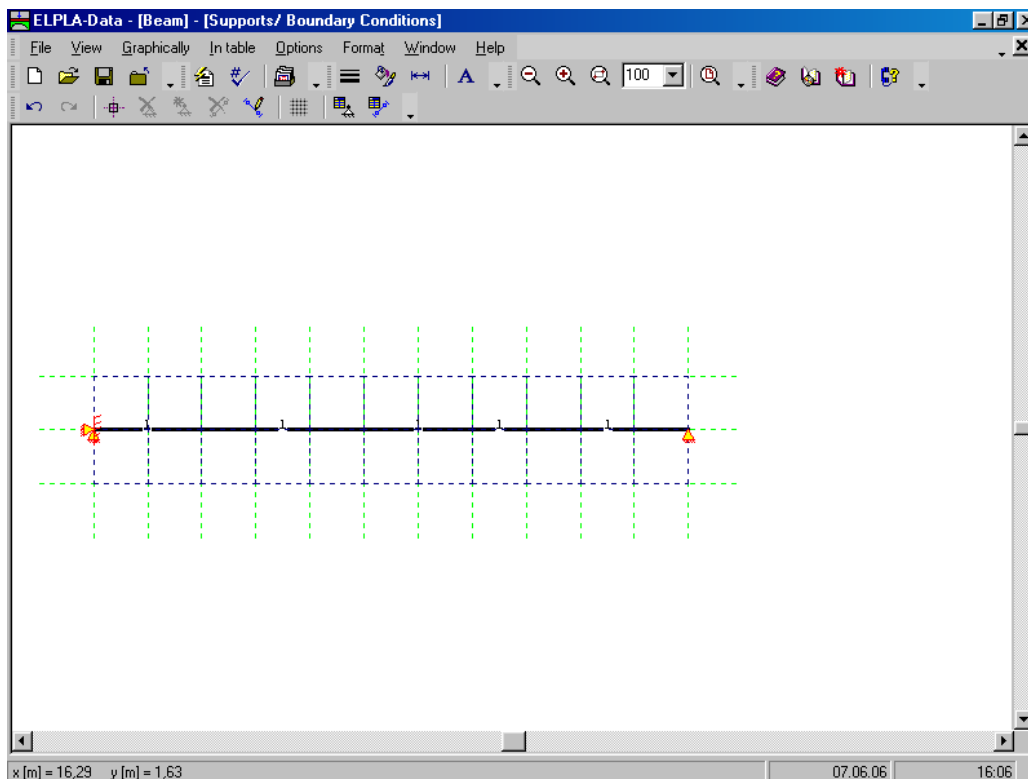

Figure 8-23 Supports on the screen
To define the roller support, repeat the steps used to define the fixed support except that the support is free to rotate and the displacement in x -direction is free. To make the rotation of the roller support is free, type "F" in the "Rotation Theta" instead of typing "0". To make the displacement of the roller support is free in x -direction, type "F" in the "Displacement u" instead of typing "0". After you have completed the definition of supports, the screen should look like the following Figure 8-23.
- Choose "Save supports/ Boundary conditions" command from "File" menu in Figure 8-23 to save the data of supports
- Choose "Close supports/ Boundary conditions" command from "File" menu in Figure 8-23 to close the "Supports/ Boundary conditions" embedded program and to return to the main window of *ELPLA-Data*